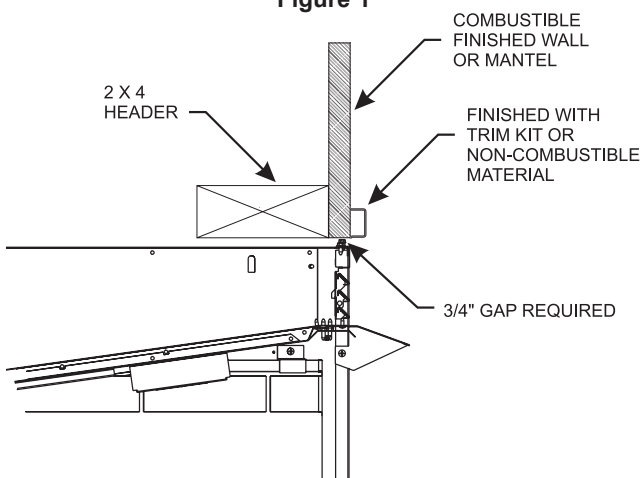

Figure 2 - Louvered Models
**Top Framing and Finishing:** Combustible finishing materials requires 3/4 inch to top of unit. There are two shoulder bolts attached to the unit to maintain the minimum clearance. See Figures 2 and 3.